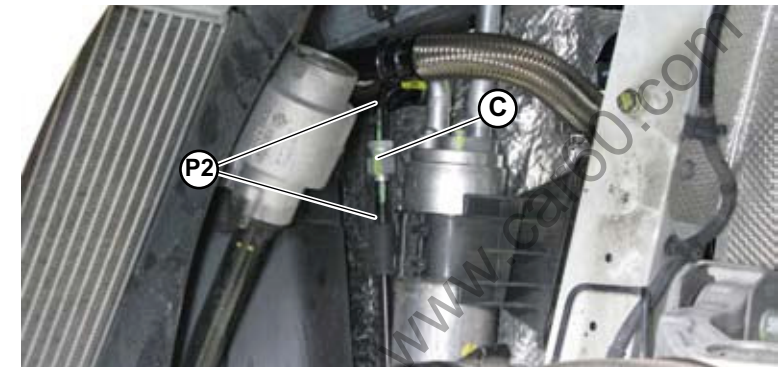

Fig.24
3. Disconnect the front part from the rear part of the **P2** return pipe (**C-Fig.24**).